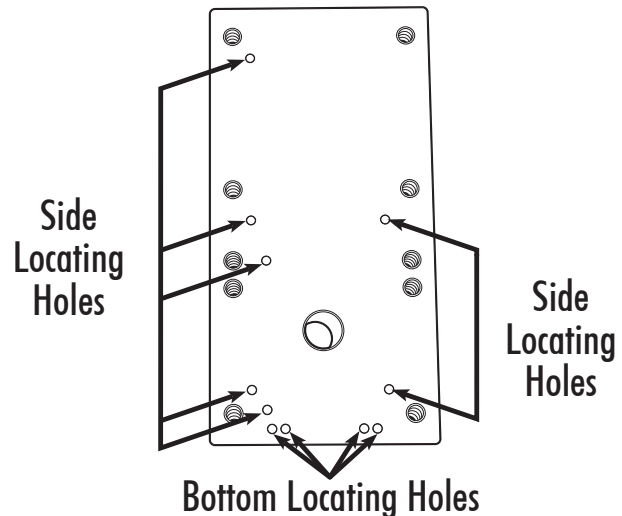

FIGURE 2—Locating pin holes.
1. There are several 1/8" "locating-pin holes" in the Laser Mount (see Figure 2). Two of the bottom holes and two of the side holes should work for most lasers in the size range that this mount was designed for. If you find that your laser needs different locating-pin holes, you can drill additional custom holes using your mill.